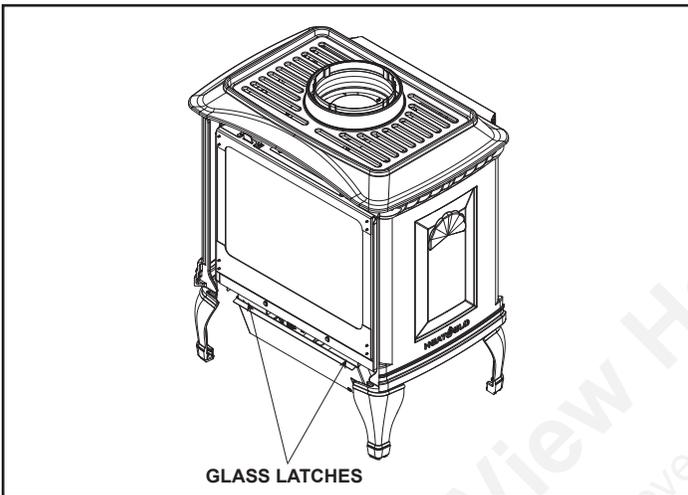

Figure 6.12 - Remove Glass Frame
- Release the glass latches on the lower corners of the appliance and remove the glass assembly, Figure 6.12.